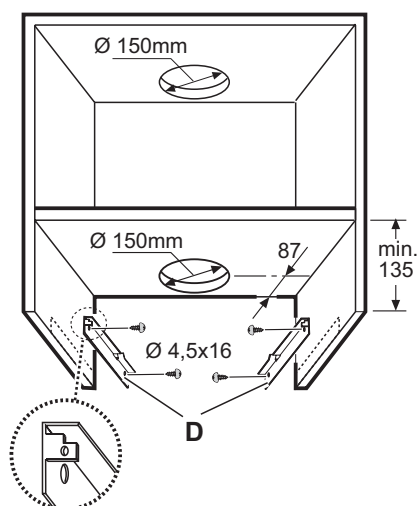

Fig. 7
- Fix the 2 brackets **D** (Fig. 7) to the side panel of the wall cabinet (one per side) with 2 screws for each bracket (align the bracket to lower border).